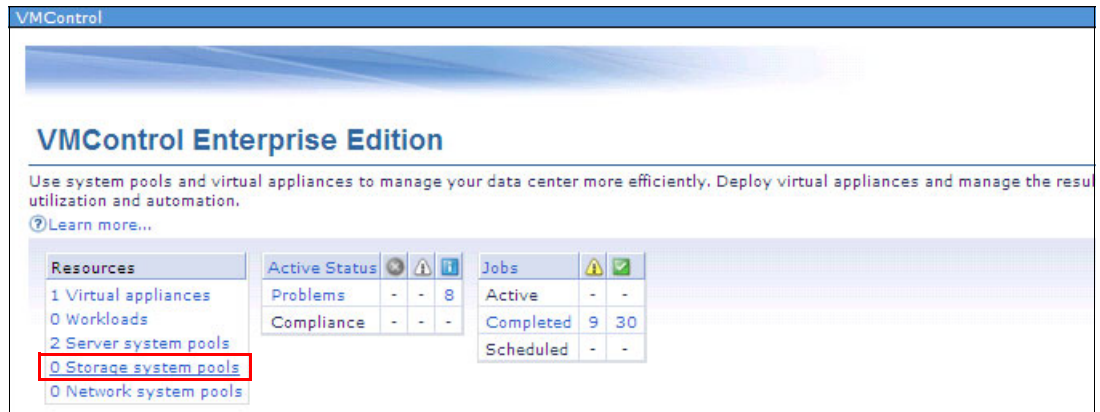

Figure 9-57 VMControl main window
1. Open the VMControl main window and click **Storage system pools** as shown in Figure 9-57.